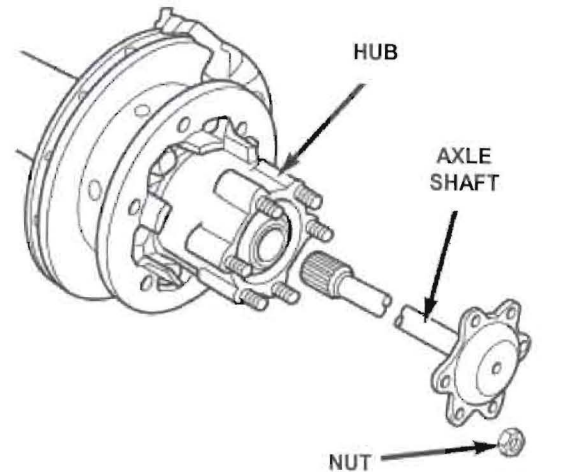

Figure 2
1. Remove the axle shaft retaining nuts (Figure 2).
3. Pull the axle shaft out of the axle housing and discard (Figure 2).